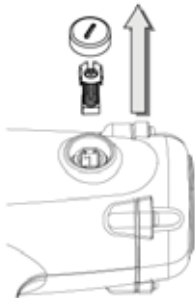

Fig. 4
- Take out the carbon brush (Fig. 4).